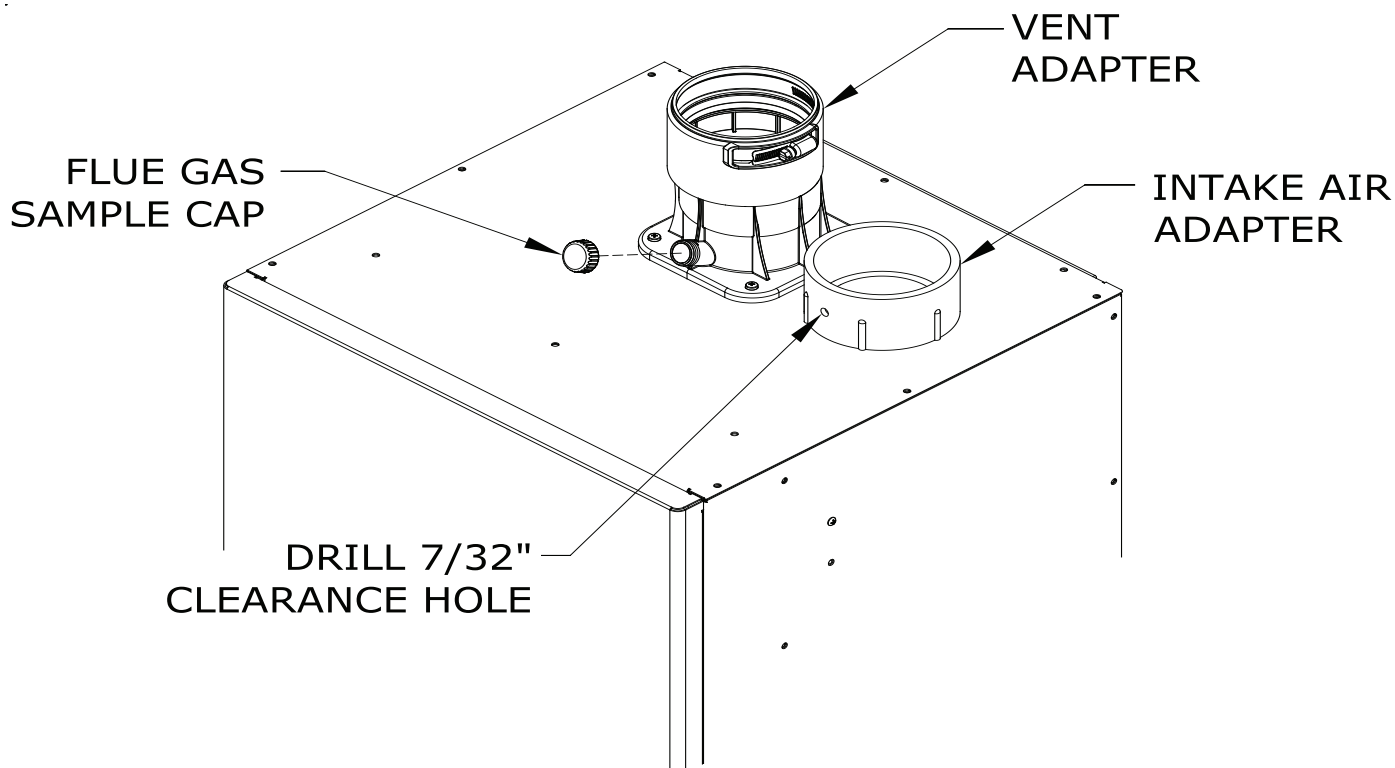

Figure 7.27: Vent Connections and Flue Gas Sample Cap Location
⚠ WARNING **Asphyxiation Hazard.** Failure to follow these instructions could cause products of combustion to enter the building, resulting in severe property damage, personal injury or death. Use all CPVC vent components for near-boiler vent piping before transitioning to Schedule 40 PVC pipe (ASTM 2665) components for remainder of vent system. Use CPVC vent components within any interior space where air cannot circulate freely, including through vertical or horizontal chase ways, inside a stud wall, in closets and through wall penetrations. The use of cellular core PVC (ASTM F891), cellular core CPVC or Radel (polyphenolsulfone is prohibited). All condensate that forms in the vent must be able to drain back to the boiler. Never leave the boiler in operation without the gas sample cap in place (Figure 7.27).
- a. The vent adaptor has three different inside diameters. The middle inside diameter accepts 3" nominal PolyPro (Figure 7.27). A locking band clamp in the adaptor prevents the vent pipe from coming out of the adaptor once it is installed and tightened. Lubricate the gaskets in the vent adaptor with soapy water and insert the first piece of 3" PolyPro into the adaptor until it bottoms out. Tighten locking band clamp to secure vent pipe.